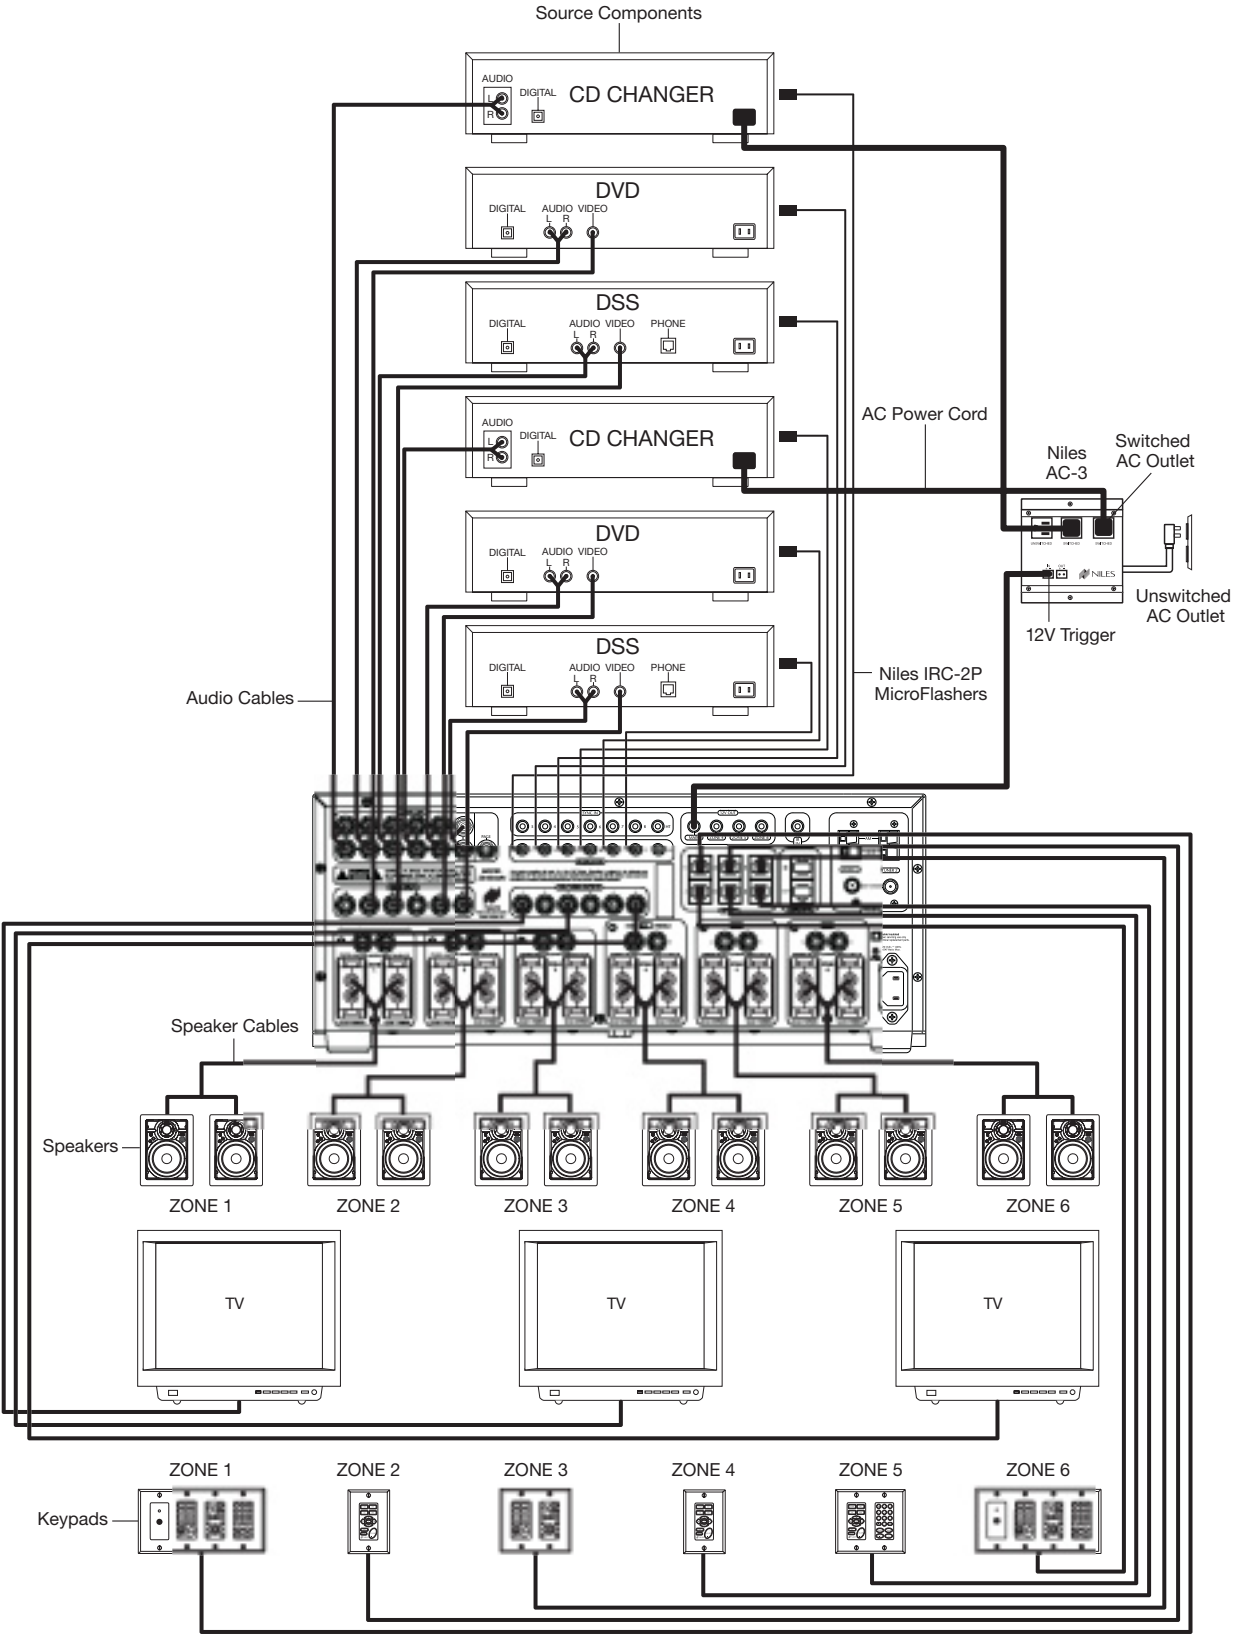

Figure 4
Figure 4 depicts the most basic configuration, in which one Niles ZR-8630AV Audio/Video MultiZone Receiver and six separate components (which can be audio or audio/video) provide sound (with or without video) to six listening zones. Each zone consists of one room with a pair of speakers. In Figure 4, three zones also have TV sets, though the system could accommodate video in all six zones.
For user control, each zone includes a Select™ or Solo™ Master Keypad Module. (These devices are available with or without a built-in IR sensor.) In addition, some zones in Figure 4 have optional Numeric™ and/or Transport™ Accessory Keypad Modules and a separate IR sensor. Jumper cables (included) connect the Accessory Keypad Modules and separate IR sensor to the Master Keypad Module. Use any combination of control devices to provide the desired degree of control in a given zone, with two exceptions: the Select™ and Transport™ cannot mate with the Solo™.
1. **Synchronized IR** - In Figure 4, a video signal connected to the ZR-8630AV synchronizes the DSS receiver's power ON/OFF. When the Master Key/Source Button for the DSS is pressed, the ZR-8630AV checks for a video signal at the Sync Input corresponding to the DSS. **The ZR-8630AV issues the power command to turn the DSS ON only when no video signal is present and the DSS is OFF.**
2. **Latching Power** - In Figure 4, the switched AC outlets of a Niles AC-3 AC turn power to the DVD and CD changer on and off. The 12V Control Output from the ZR-8630AV activates the AC-3 when any of the six zones is ON (including the Home Theater Zone sharing sources). The built-in AM/FM tuners also turn ON when any of the six zones is ON.